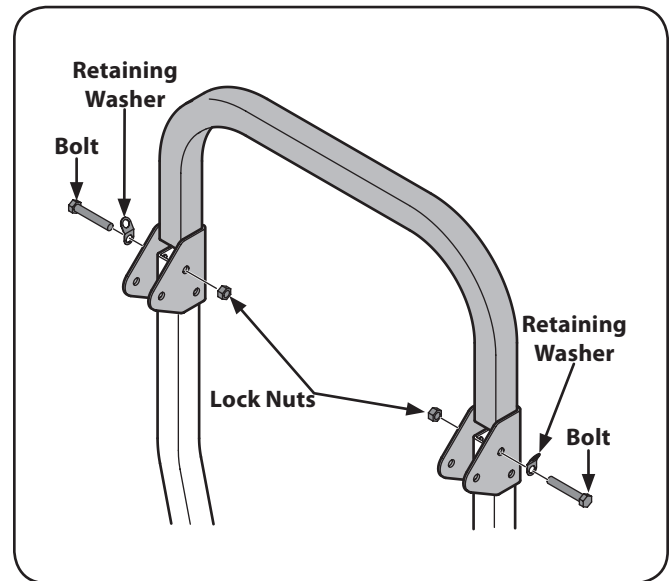

Figure 3-4
4. Install the upper ROPS section onto the lower ROPS "posts". Install the bolts, retaining washers and lock nuts. See Figure 3-4.